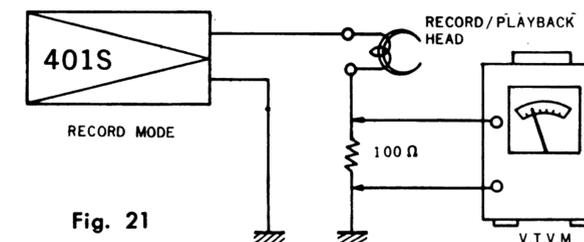

Fig. 21
Measuring Circuit: Refer to Fig. 21.
- As shown in Fig. 21, insert 100Ω Resistor to ground Lead Wire of Record/Playback Head, and connect VTVM across Resistor.